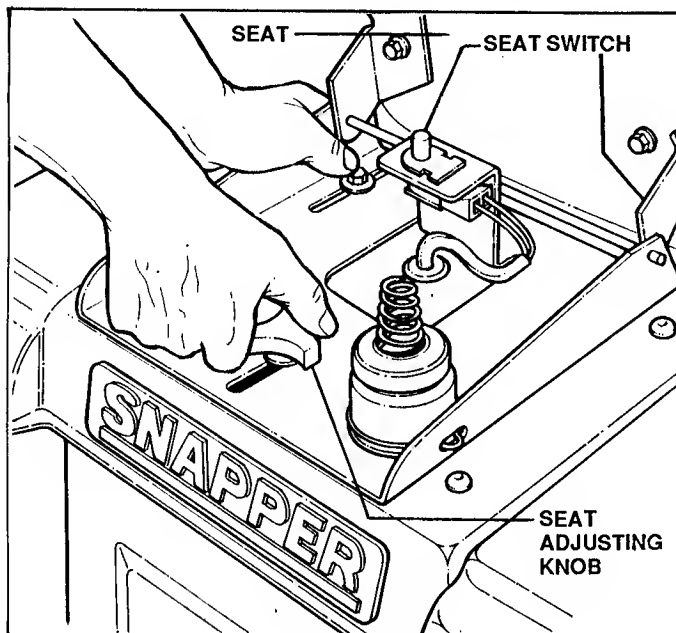

FIGURE 8
- RE-ADJUST SEAT as needed to most comfortable position. (Refer to Pages 5 & 6, Figure 8)
**FORE & AFT ADJUSTMENT:** With machine stopped, loosen the ADJUSTING KNOB on seat support. Sit in operators seat and, while depressing the CLUTCH/BRAKE PEDAL, slide the seat forward or rearward to the most comfortable position, then lock in position by tightening ADJUSTING KNOB. See Figure 8.